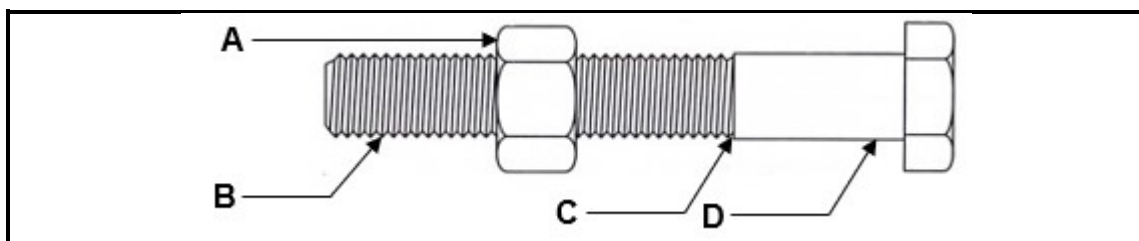

FIGURE 2.4
2.4 Name parts **A** to **D** of the bolt in FIGURE 2.4.